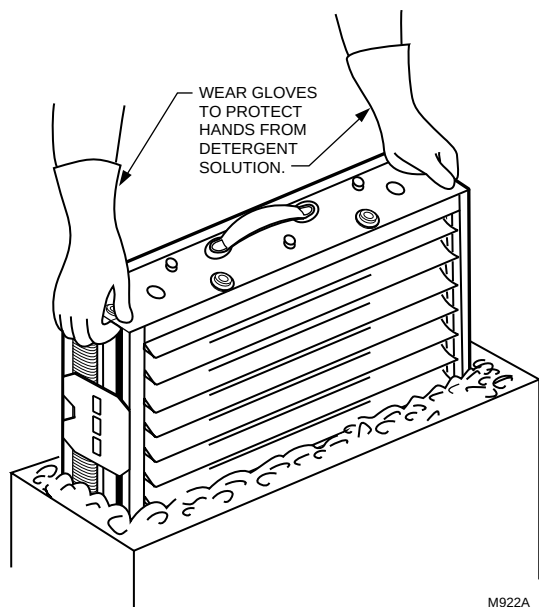

Fig. 12. Washing cells in container.
3. After detergent has completely dissolved, place cells in the container and let soak for 15 to 20 minutes. Agitate up and down a few times and remove. See Fig. 12.